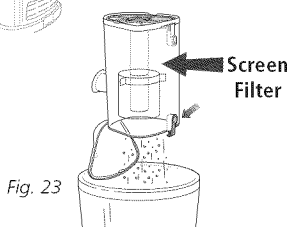

Fig. 23
- 3 If needed, turn the dust cup upside down over the trash receptacle and press the top door release button. (Fig. 23) Tap gently to remove contents.